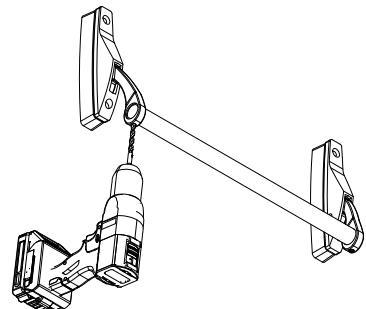

Figure 11
2. Mark bar at inactive case & cut. Length of cross bar should be from flush to 1/16" less than flush. (Figure 11)